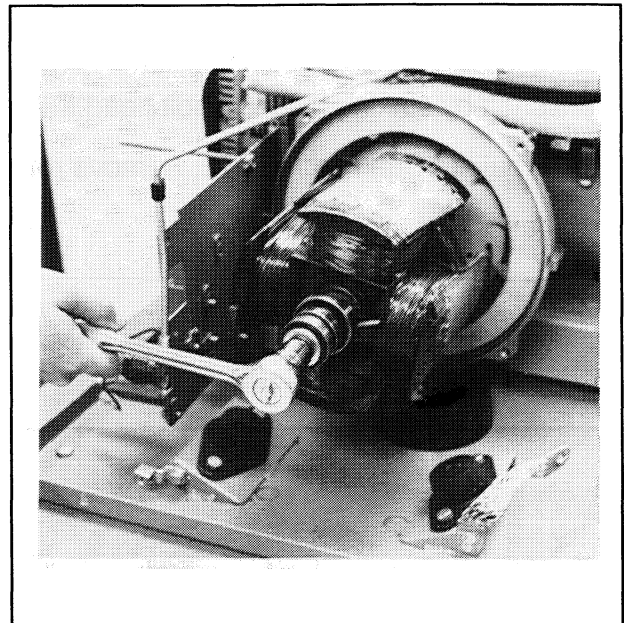

Figure 8-15. Torquing Thru-Bolt
3. Slide rotor onto stub shaft and hand-tighten rotor thru-bolt. Attach a strap wrench to rotor and torque thru-bolt to 50 ft. lbs. (68 Nm). See Figure 8-15.